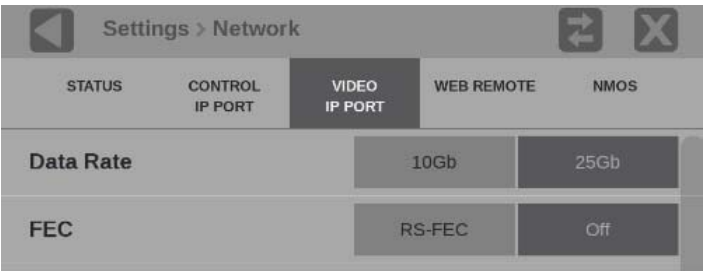

Figure 34: VIDEO IP PORT submenu
3. Select **VIDEO IP PORT** tab to open the submenu. (See Figure 34.)